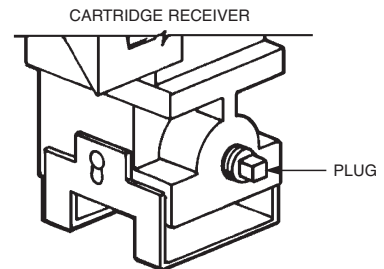

FIGURE 57
3. Remove plug from cartridge receiver. See Figure 57.